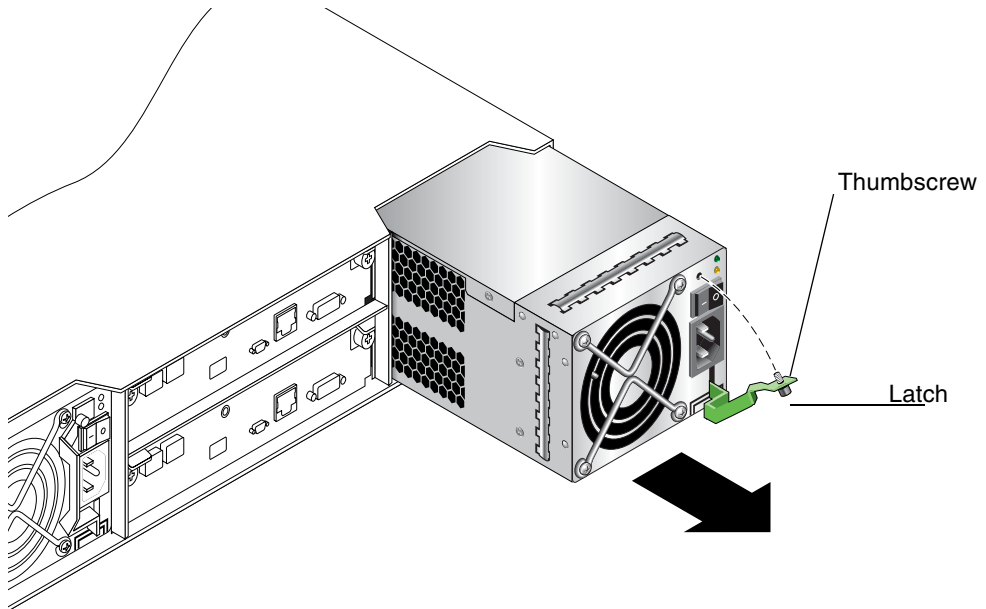

Figure 7-6 Removing the Power Supply from the Chassis
4. Turn the thumbscrew at the top of the latch (see Figure 7-6) counterclockwise until the thumbscrew is disengaged from the power-and-cooling module.
5. As shown in Figure 7-6, rotate the latch downward to about 45 degrees, supplying leverage to disconnect the power-and-cooling module from the internal connector.
1. Orient the new power-and-cooling module with the AC connector and power switch toward the right as shown in Figure 7-6, and slide the module into the power supply slot as far as it will go.